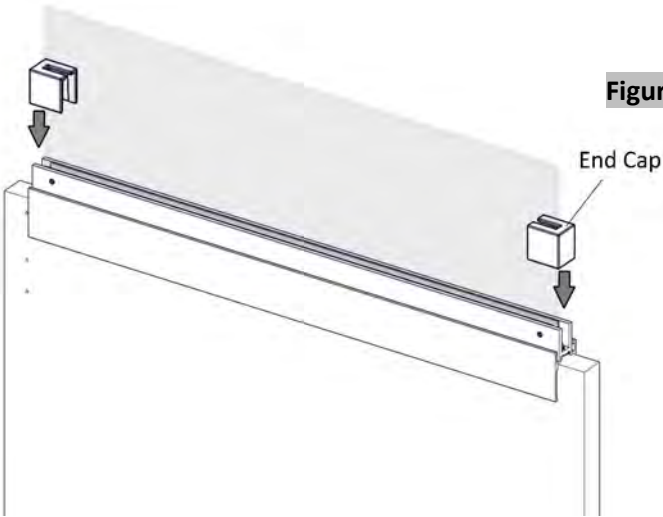

Figure 5
8. Insert the end cap on both ends of the base extrusion then push it down to secure, (Figure 5).